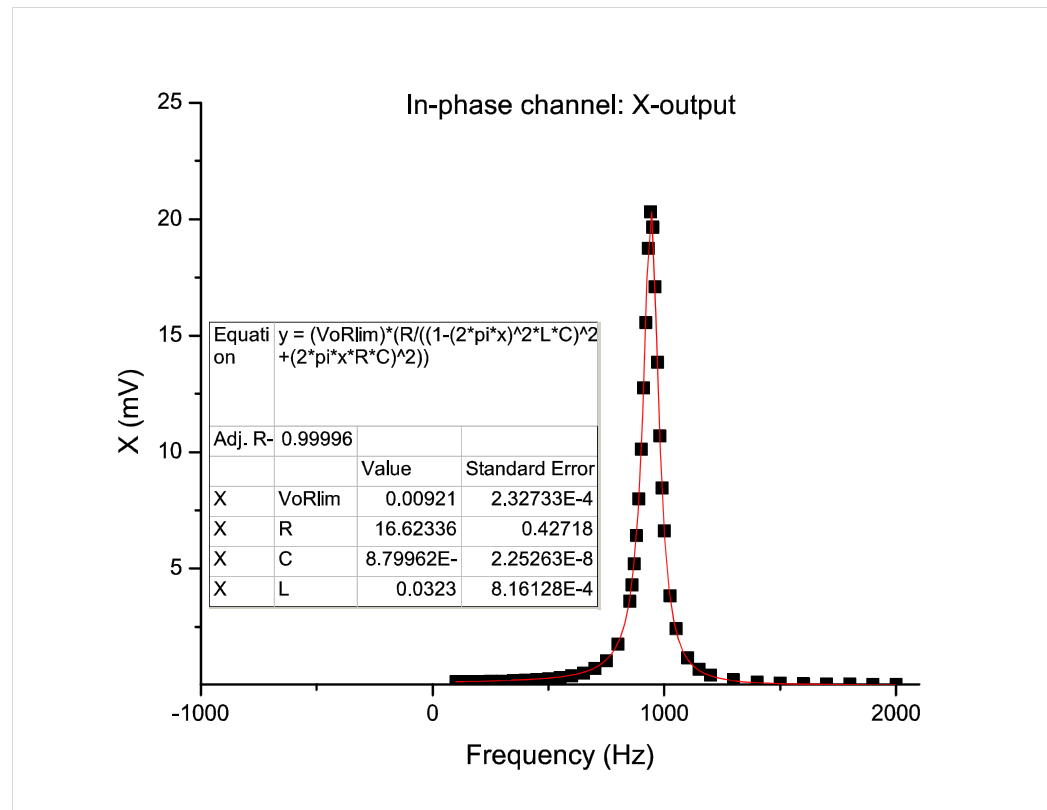

Figure 1. The in-phase output voltage amplitude of an RLC circuit shows a clear resonant response frequency at the peak around 980 Hz.
Figure 1. ISI is a fine optical system that images the uniform aperture onto the target. If the optical distortion of the system is small compared to the size of the focal spot image, then the profile shape will be only slightly distorted, when averaged over relevant hydrodynamic time scales. (Courtesy U.S. Naval Research Laboratory)
- Use Arabic numerals and the word “figure” to denote figures and captions, e.g. **Figure 1, Fig. 23**
Figure 1: This graph displays the accuracy of the code at low magnetic inclination angles for a spot size of 90 degrees, where the error will be largest. As our analysis only uses magnetic inclination angles of 0.2 degrees and above, our code is sufficiently accurate to study the millisecond pulsars. Our results fit the theoretical values with an $R^2 = 0.9997$.
Figure 1: Plot of modulation fraction vs magnetic inclination angle determined from both computer simulations (diamonds) and theoretical calculations (solid line). This graph displays the accuracy of the code at low magnetic inclination angles for a spot size of 90 degrees, where the error will be largest. As our analysis only uses magnetic inclination angles of 0.2 degrees and above, our code is sufficiently accurate to study the millisecond pulsars. Our results fit the theoretical values with an $R^2 = 0.9997$.
Figure 1. The relaxor PMN-PT 8% develops partial polarization when aged at $T = 205\text{ K}$ in a dc bias field $E = 830\text{ V}/\text{cm}$. The magnitude of the net polarization formed in the sample during this type of aging process is plotted above as a function of the total aging time.
Figure 1. Plot of polarization vs aging time for the relaxor ferroelectric PMN-PT 8%. The relaxor PMN-PT 8% develops partial polarization when aged at $T = 205\text{ K}$ in a dc bias field $E = 830\text{ V}/\text{cm}$.
Figure 1. Plot of the in-phase output voltage X vs frequency. The in-phase output voltage amplitude of an RLC circuit shows a clear resonant response frequency at the peak around 980 Hz.
Figure 1. Plot of the in-phase output voltage X vs frequency. Filled squares represent measured points, and the red line is a fit to the data using a Lorentzian lineshape. The table inset gives the fit parameters associated with the Lorentzian fit. The in-phase output voltage amplitude of an RLC circuit shows a clear resonant response frequency at the peak around 980 Hz.